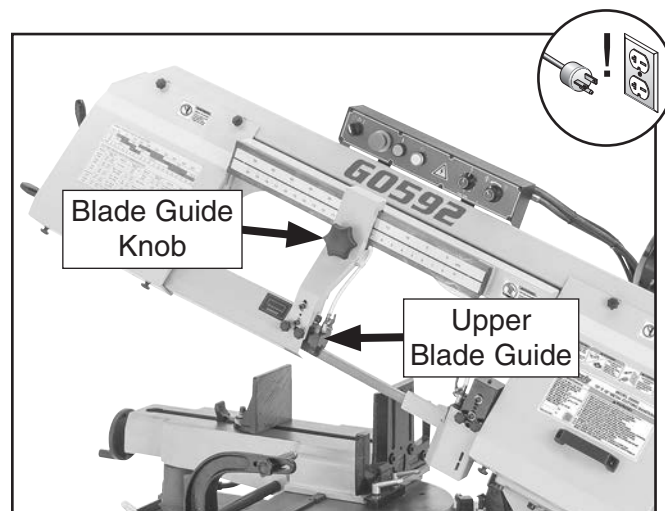

Figure 38. Location of upper blade guide components.
2. Loosen blade guide knob, move upper blade guide as far left as it will go, then tighten knob to secure (see **Figure 38**).